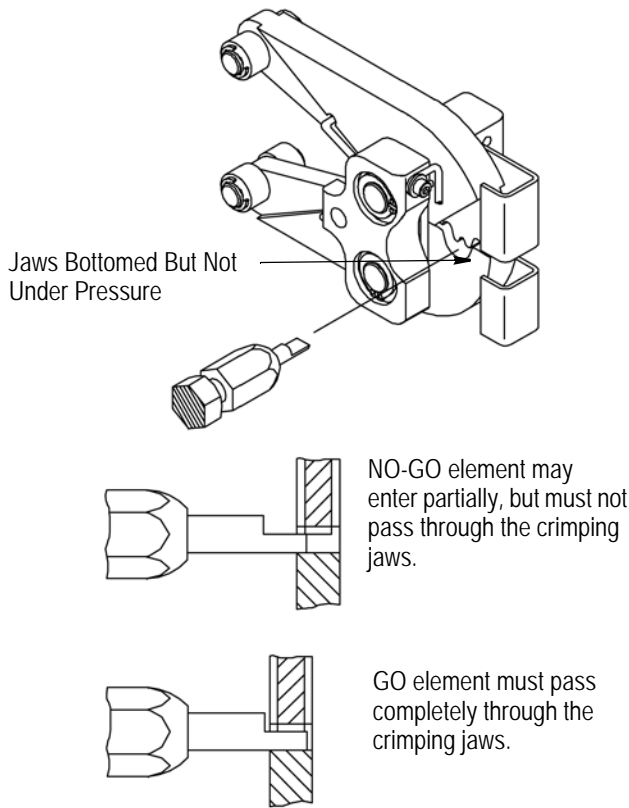

Figure 8
3. Align the GO element with the crimping chamber. Push the GO element straight into the crimping chamber without using force. The GO element must pass completely through the crimping chamber. See Figure 8.